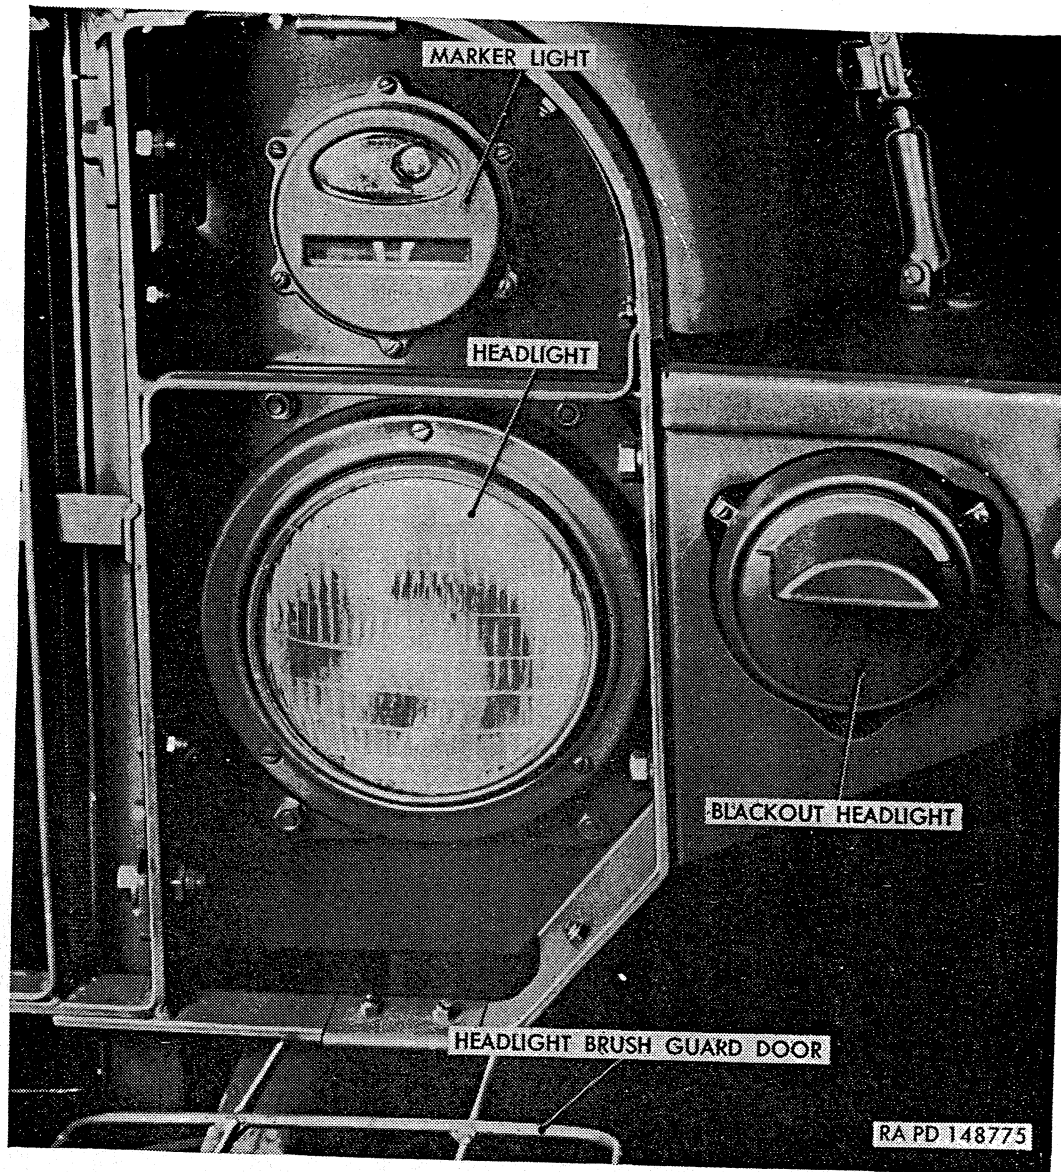

Figure 163. Front lights installed (left side shown).
- (c) Position headlight (fig. 163) and mounting plate assembly on studs in radiator side baffle and secure with four  $\frac{3}{8}$ -24 nuts and  $\frac{3}{8}$ -inch lockwashers.